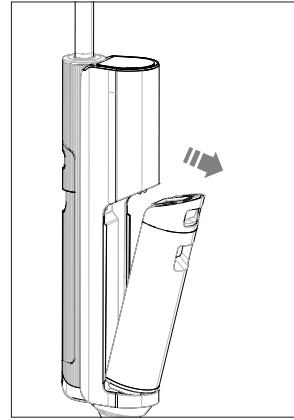

Fig. 8 – Removing the water tank
- ▶ Hold the recessed grip of the dirty water tank (7) and press the dirty water tank release button (6) downwards.
- ▶ Pull the fresh water tank out of the appliance body (**see Fig. 8**).